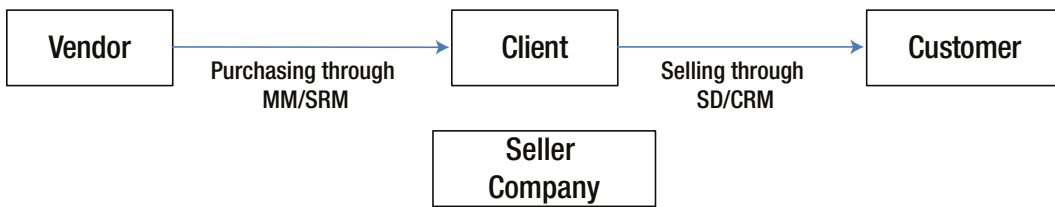

Figure 17-1. B2B scenario
There are two types of business scenarios: business-to-consumer (B2C), where goods are delivered directly to the customer, and business-to-business (B2B). In a typical B2B scenario, purchasing is handled by Material Management (MM) / Supplier Relationship Management (SRM), and selling is handled by Customer Relationship Management (CRM) / Sales and Distribution (SD), as shown in Figure 17-1.